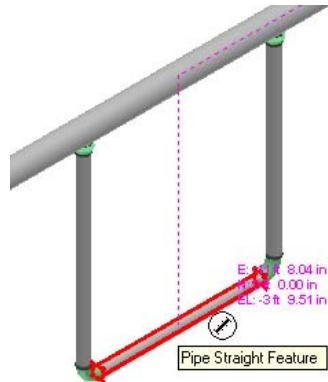

Figure 21: Midpoint of the pipe
10. Now, place a gate valve on the bypass line you have just placed. Click the **Insert Component** button on the vertical toolbar and use SmartSketch to locate the midpoint glyph of the pipe you have just placed, as shown in Figure 21. Use the midpoint as the active placement point for the component.